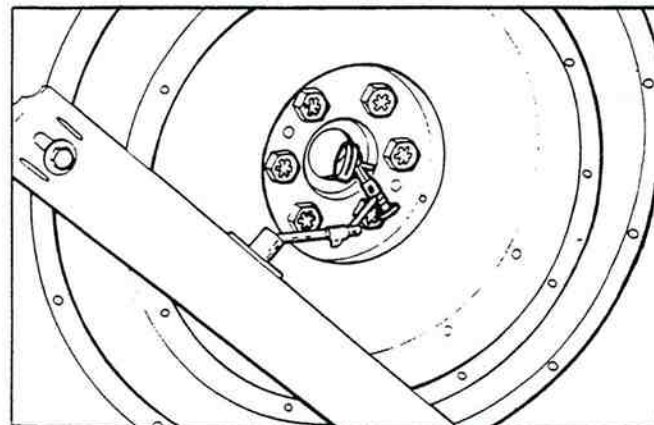

Figure 5-31 Pilot Bearing Bore Surface Runout.
5. Now move gauge stylus to contact pilot bearing bore surface (Figure 5-31). Rotate flywheel. Maximum total allowable runout is .005" (.127 mm).